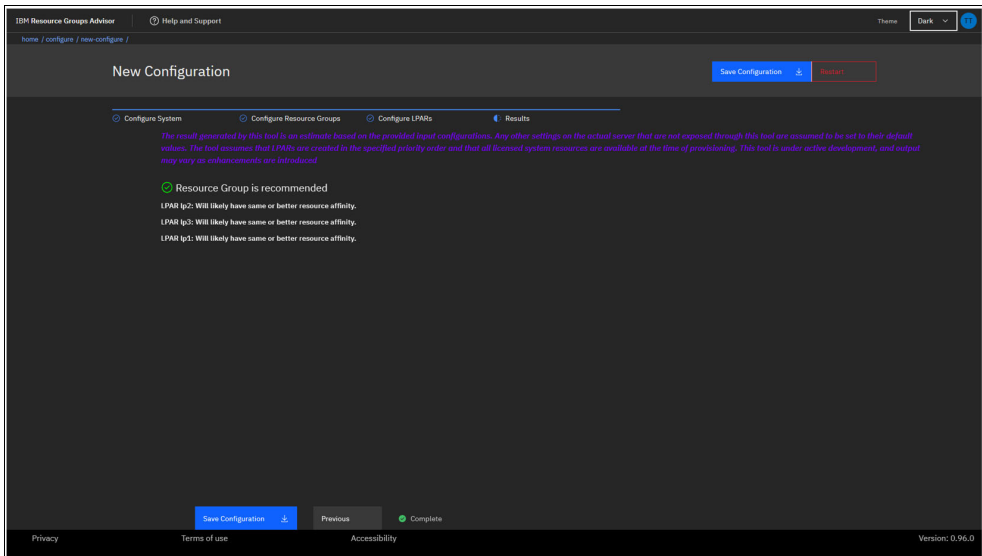

Figure 9-12 Output from the tool
4. After entering the LPAR information, click **Submit** to get the model’s output, similar to what is shown in Figure 9-12.